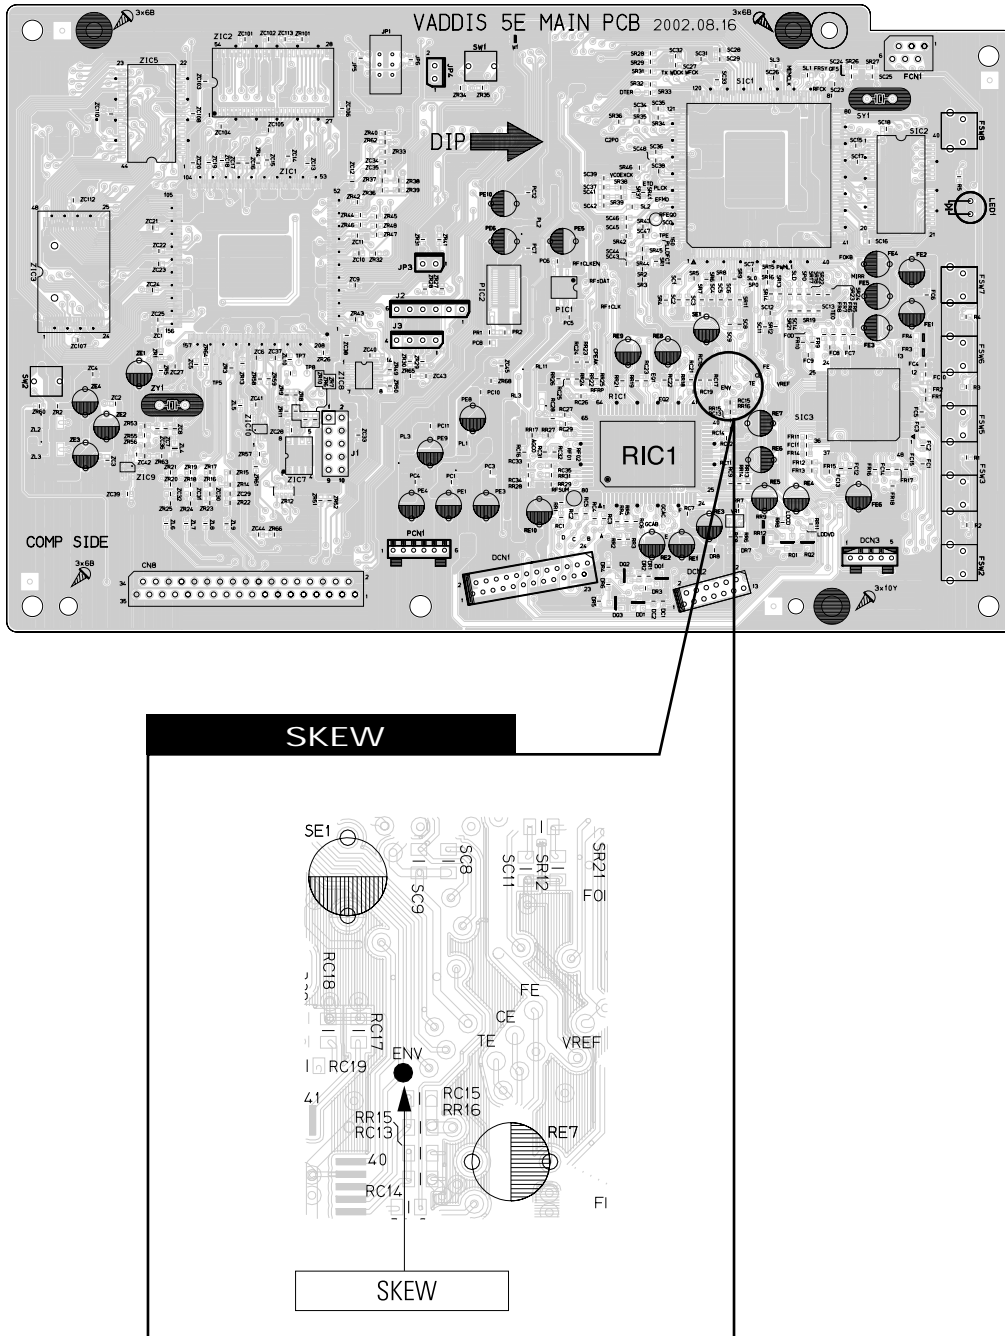

Fig. 2-1 Location of Test Point
- 1) Connect an Oscilloscope to the "ENV" Test Point (See Fig. 2-1).